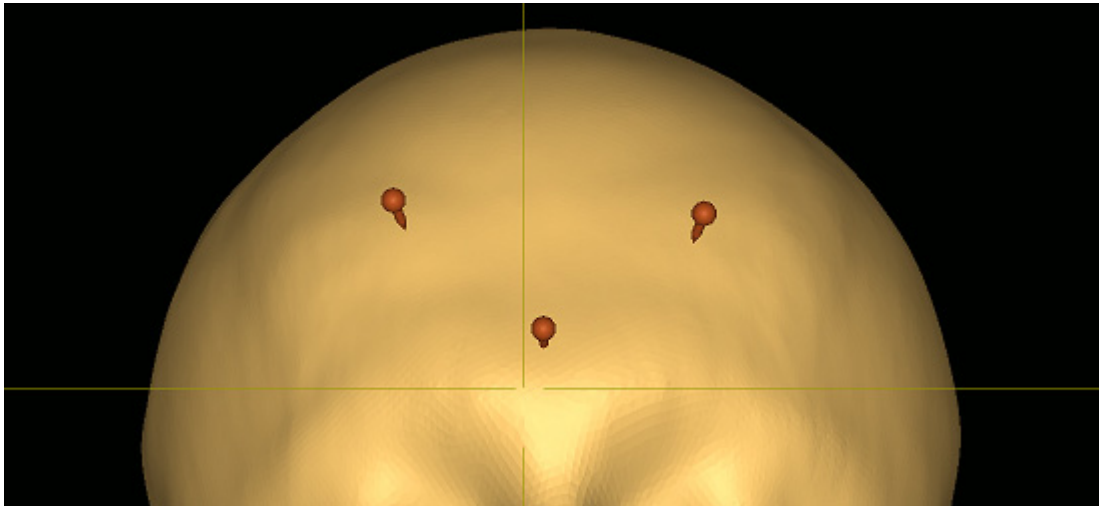

Fig. 79. Digitization points displayed on the 3D head
9. The digitization points will be displayed on the 3D head view (see Figure 79).